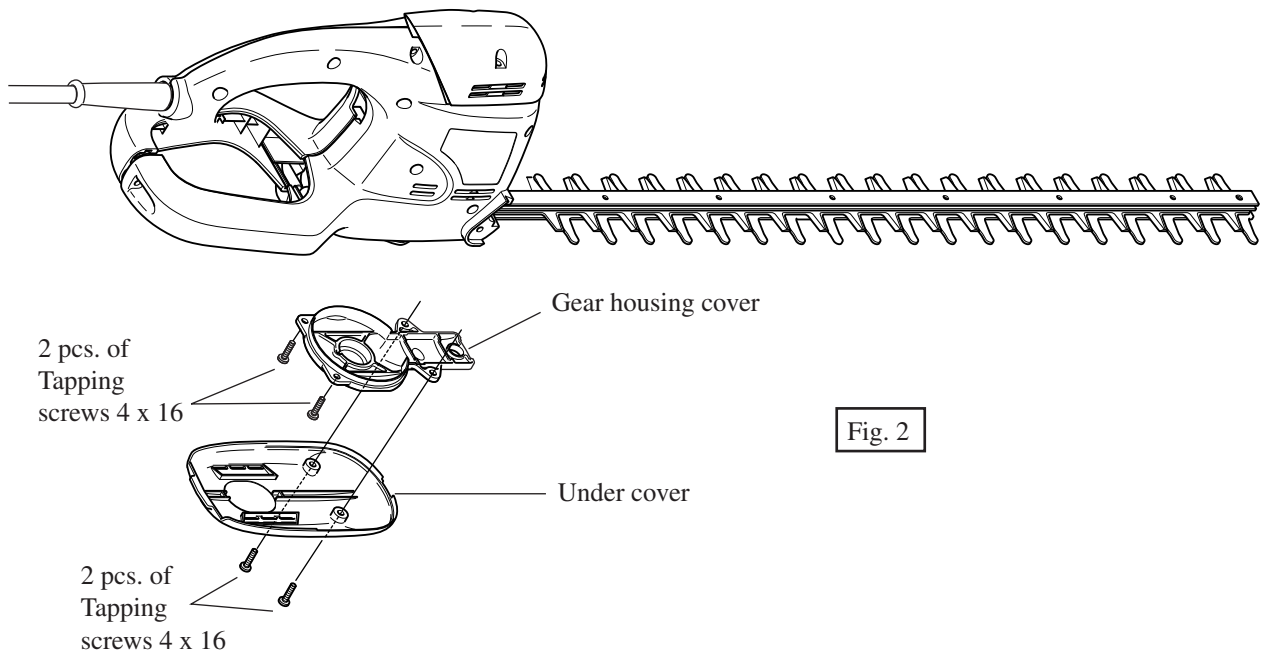

Fig. 2
1. Disassemble under cover by unscrewing 2 pcs. of tapping screws 4 x 16. See Fig. 2.
2. Disassemble gear housing cover by unscrewing 2 pcs. of tapping screws 4 x 16. See Fig. 2.